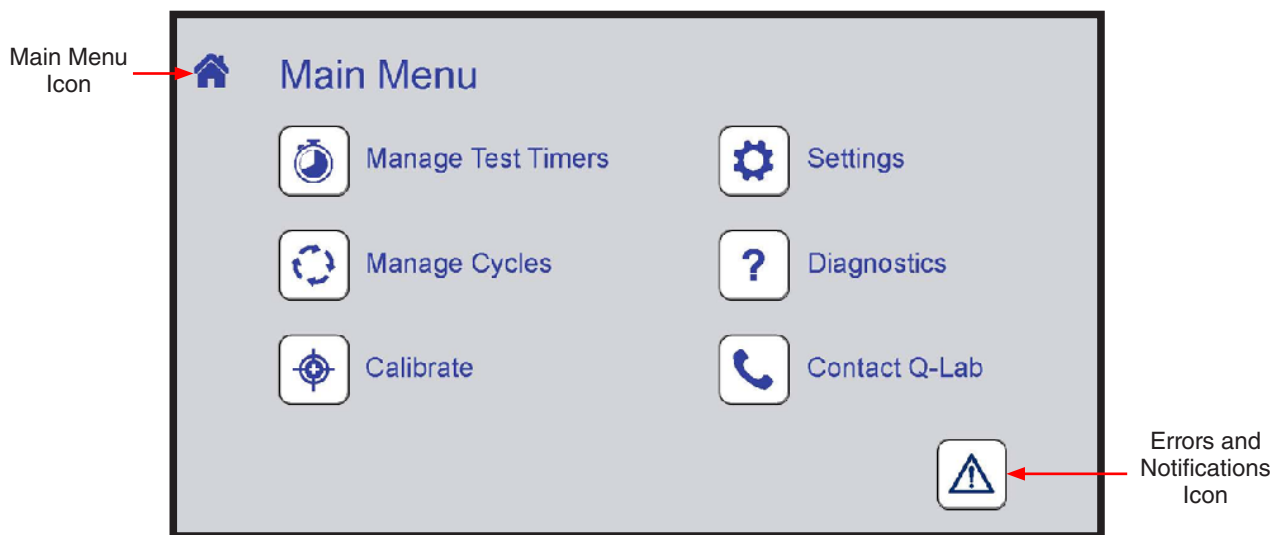

Figure 11.3a: Main Menu screen.
- The Main Menu is the home display for the menu screen (Figure 11.3a).